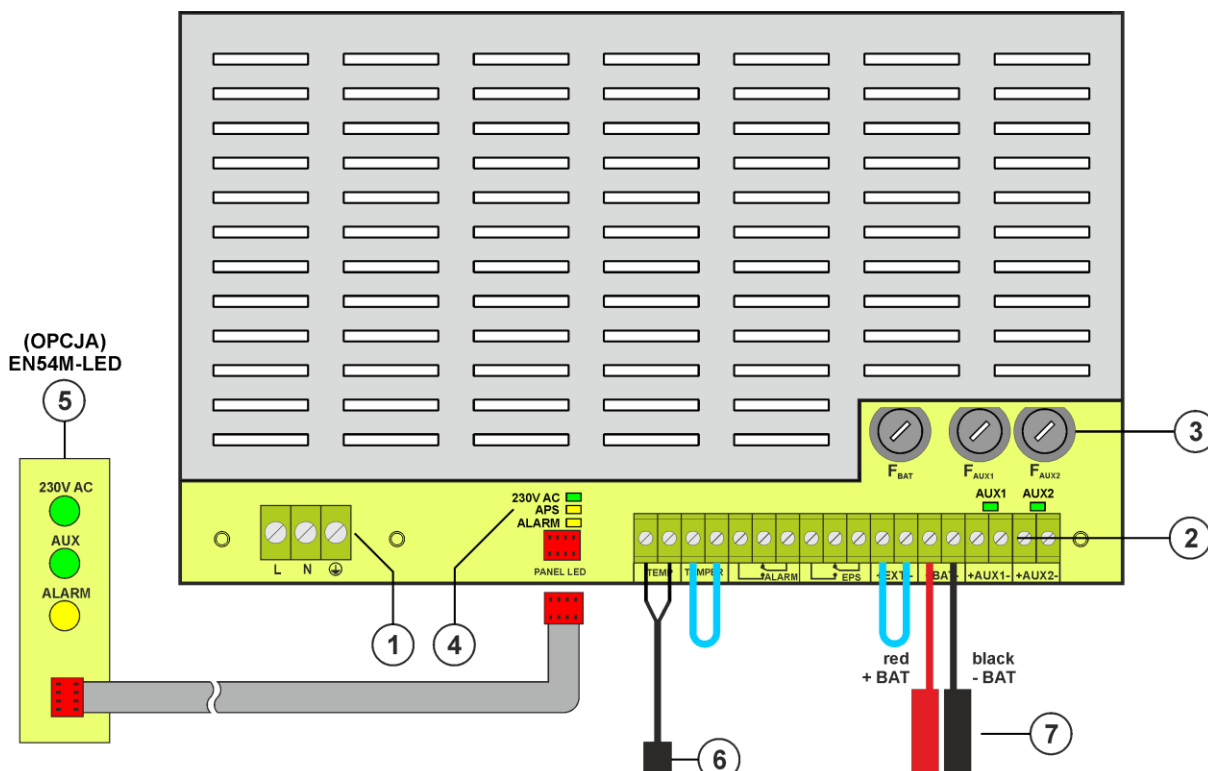

Fig. 2. View of the PSU module.
Table 1. Elements of the PSU module (Fig. 2).
①	L-N-PE 230 V power connector with protective terminal
②	<p>Terminals:</p> <p>TEMP – input of the battery temperature sensor</p> <p>TAMPER – input of the microswitch tamper Closed input = no indication Open input = alarm</p> <p>ALARM – technical output of collective failure of the PSU - relay type</p> <p>EPS – technical output of AC power failure indication open = AC power failure closed = AC power - O.K.</p> <p>EXTi – external failure input Closed input = no indication Open input = alarm</p> <p>+BAT- – terminals for connecting the battery</p> <p>+AUX1- – AUX1 power output (- AUX=GND)</p> <p>+AUX2- – AUX2 power output (- AUX=GND)</p> <p>CAUTION! In Fig.2 the set of contacts shows a potential-free status of the relay, which corresponds to power supply failure.</p>
③	<p>Fuses:</p> <p>F_{BAT} – fuse in the battery circuit,</p> <p>F_{AUX1} – fuse in the AUX1 output circuit,</p> <p>F_{AUX2} – fuse in the AUX2 output circuit,</p> <p>The fuse values are given in table 4 - "Electrical parameters".</p>
④	<p>LEDs – optical indication:</p> <p>230 V – voltage in the 230 V circuit</p> <p>APS – battery failure</p> <p>ALARM – collective failure</p> <p>AUX1 – AUX1 output voltage (at the AUX1 connector)</p> <p>AUX2 – AUX2 output voltage (at the AUX2 connector)</p>
⑤	PANEL LED – the EN54M-LED external optical indication panel
⑥	Battery temperature sensor
⑦	Battery connectors; positive: +BAT = red, negative: - BAT = black
4. Install the batteries in a designated area of the enclosure. Connect the batteries with the PSU paying special attention to the correct polarity. Batteries must be connected in series using the special cable (included). Attach the temperature sensor to any of the batteries with mounting tape (included). Screw the temperature sensor to the "Temp" terminals of the power supply (Figure 2, point 6). Insert the sensor between the batteries.